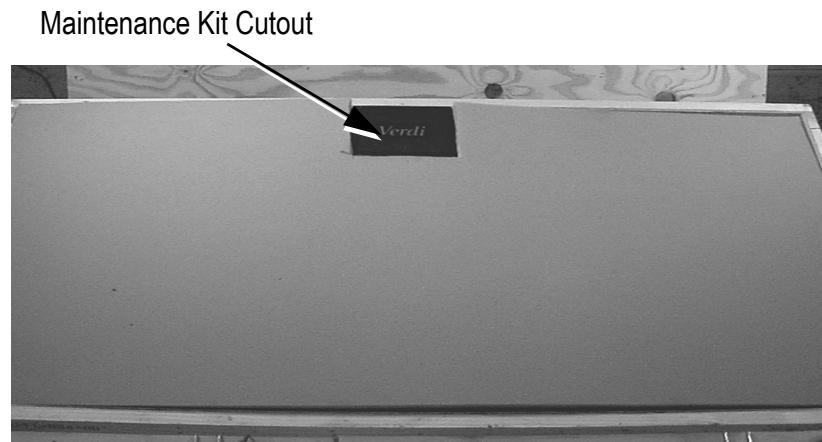

Figure A-4. Location of Packed Verdi V-8/V-10 Laser Maintenance Kit
5. Place the Verdi V-8/V-10 Maintenance Kit in the outer cutout as in Figure A-4.